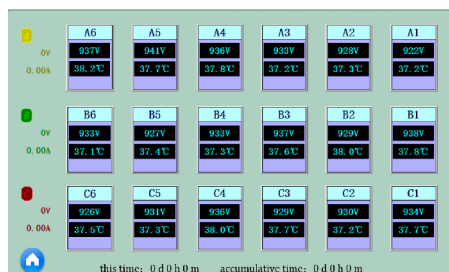

Fig.5
- Monitor & Control for Temperature & Status of Power Cell Unit(Fig.5)